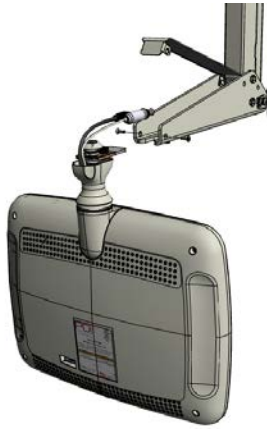

Fig.1
1. Slide the TV assembly onto the nose of the arm as shown in Fig. 1.